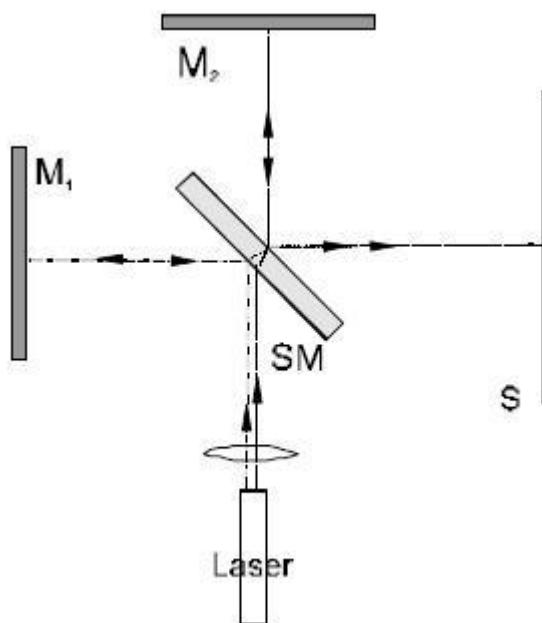

Fig. 2 Experimental set-up Michelson's interferometer. (M₁, M₂ = mirrors, SM = semitransparent mirror, S = ground screen)
- Position the laser half way along the longer side of the metal board (Fig. 2) and adjust the laser beam parallel to the ground plate (see Notes).
- Position the semi-transparent mirror between the laser and mirror M₂ as shown in Figure 2. The angle between the semi-transparent mirror plane and the axis of the laser beam should be 45°. Correct positioning is vital.
- Position the ground screen as shown in Figure 2, on the shorter side of the board. The beam spot should appear in the centre of the screen.
By adjusting the set up according to Figure 2 it is very important that the interfering spherical waves are containing only a small angle (see Figure 3a), than we can observe the interference in the area I. If the spherical waves contain too big an angle (Figure 3b) the interference can not be observed. Therefore it is important to adjust the laser beam parallel to the ground plate and try to keep it parallel after reflection from mirrors M₁ and M₂.